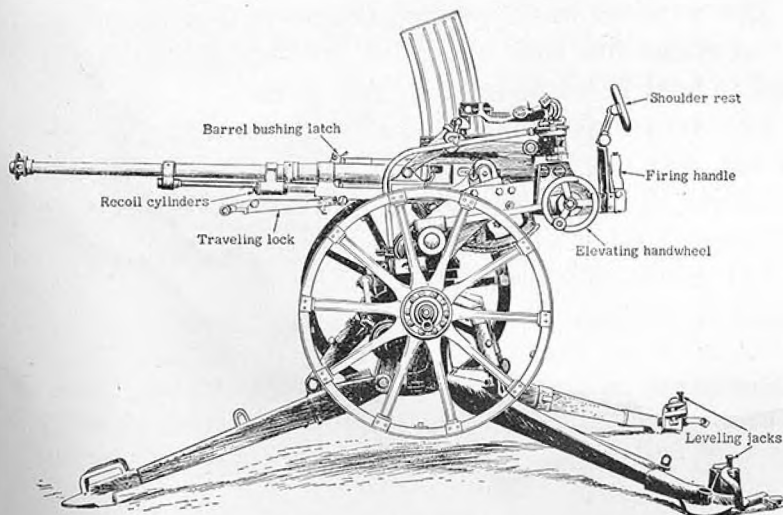

Figure 112.—Model 98 (1938) 20-mm antiaircraft-antitank machine cannon (left side).
(1) Its general appearance, which is different from any other Japanese field piece (see fig. 112).
(2) The front outrigger.
(3) The barrel traveling lock.
(4) The marking $\begin{smallmatrix} 九 \\ 八 \\ 式 \end{smallmatrix}$ which is on the top of the receiver. (This marking, which is read *Kyuhachi Shiki* from top to bottom, means "98 model.")